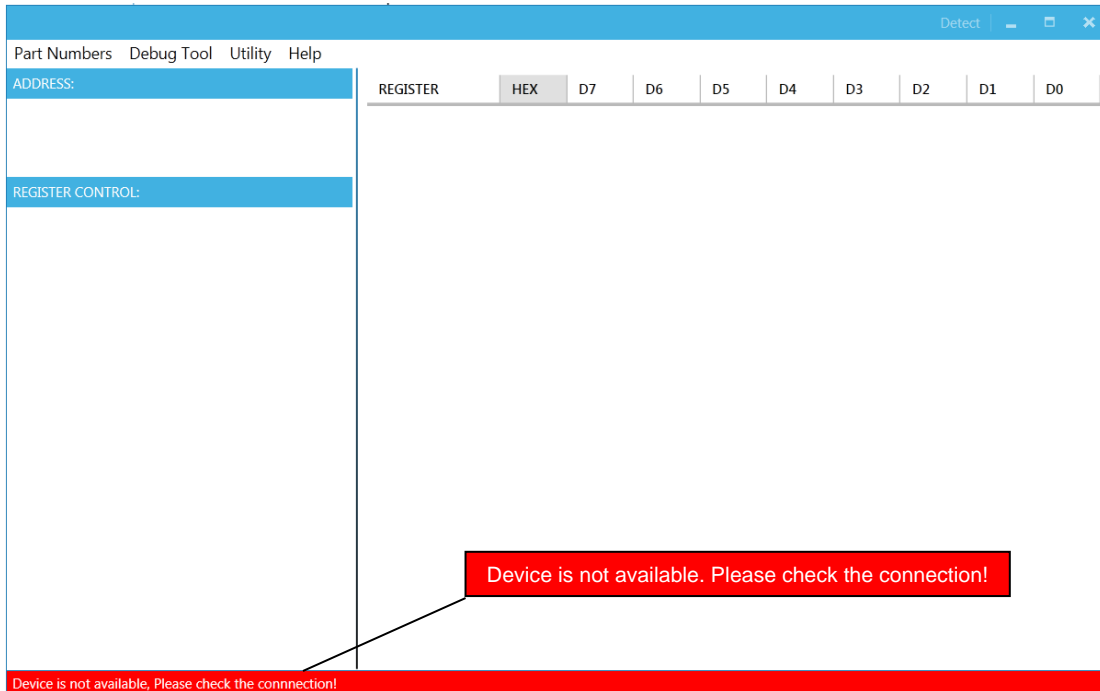

Figure 9: Warning Indicates Unsuccessful Connection – USBI2C Communication Interface Device is Not Connected
- 2) “Device is not available. Please check the Connection!” This means that the USB I2C communication interface device is not connected (see Figure 9).
The screenshot shows the same software window as Figure 9, but now it displays I2C register data. The title bar includes the part number 'EV8860-Q-00A 2.8-22V VIN,1A IOUT,4-SWITCH,INTEGRATED BUCK-BOOST CONVERTER WITH I2C INTERFACE'. The 'ADDRESS:' field is set to '68'. The 'REGISTER CONTROL:' menu has several options: INTERRUPT, VOUT, CURRENT, CONTROL, and MASK. The main table displays the following data: